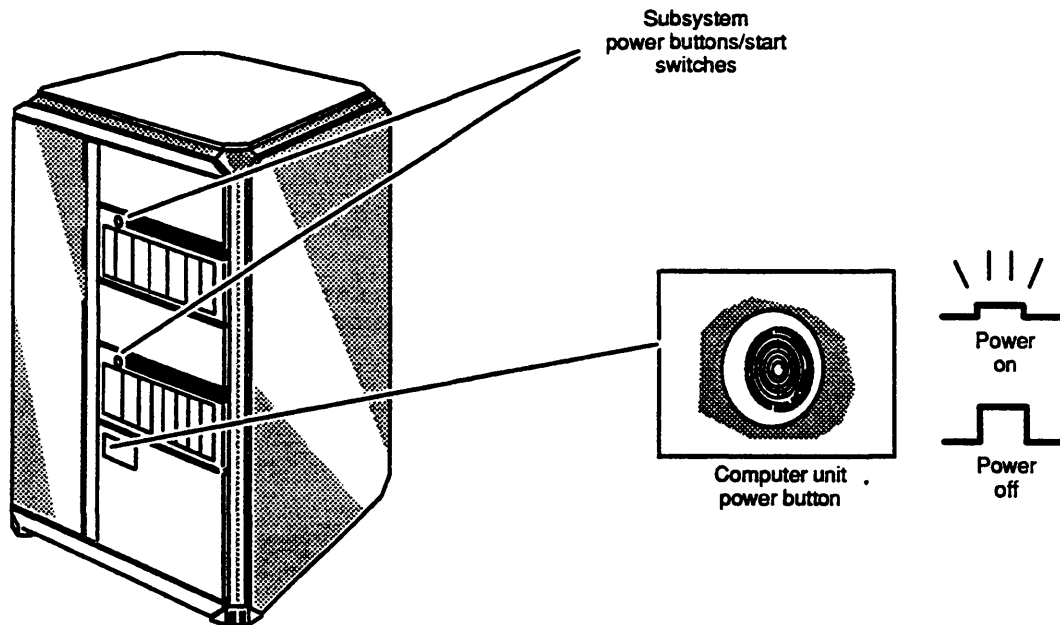

Figure 2-2 Turning on Computer Power
1. Turn on ac power to the system console and all cluster boxes, terminals, printers, plotters, and external drives that connect to your system. Figure 2-2 shows the start/power switches in a typical AViiON 6000 cabinet. Make sure that the peripheral devices are *on line*.
2. Turn on the computer unit by pressing the power button on the front panel. Make sure the power button on the computer lights up and stays pushed in. Figure 2-2 shows the location of the power button.